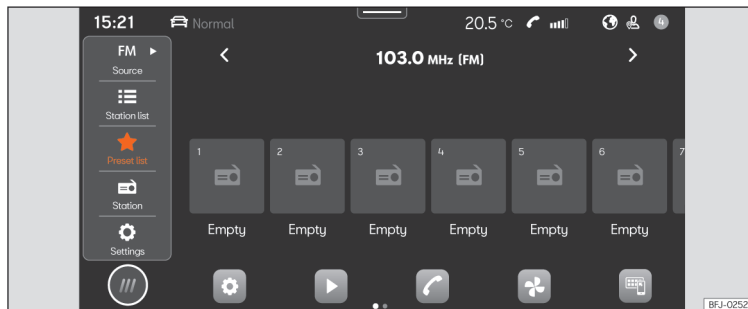

Fig. 161 Schematic diagram: Radio view.
- Press **HOME** > >>> **Fig. 161**.